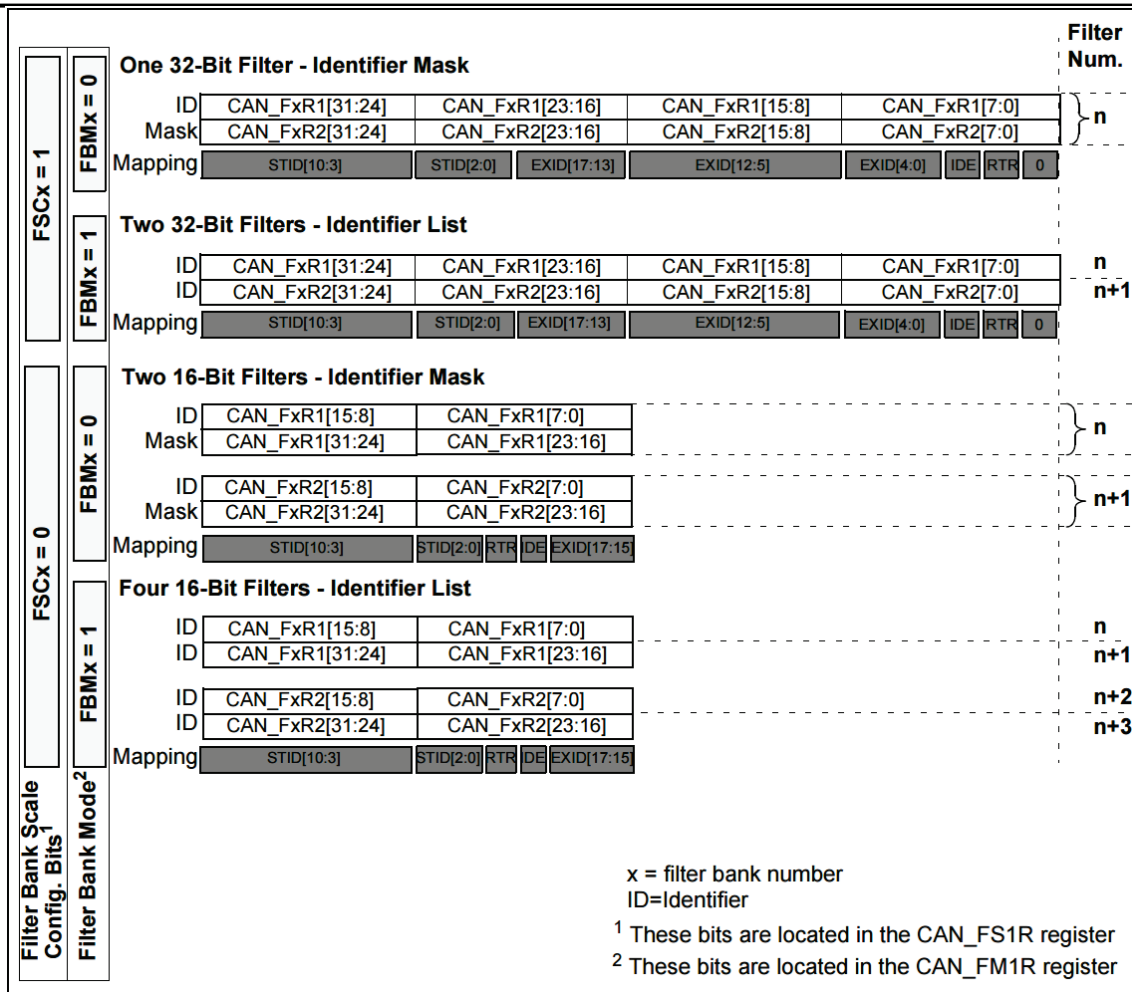

Figure203 Filter Group Bit Width Setting-Register Organization
- 2 16-bit filters including: STDID[10:0], IDE, RTR and EXTID[17:15] bits are available at Figure 203.
to configure the bit width of a filter group, see Figure 203. With the FBMx bit of CAN_FMR, the identifier list mode or the mask bit mode of the corresponding mask/identifier register can be configured.